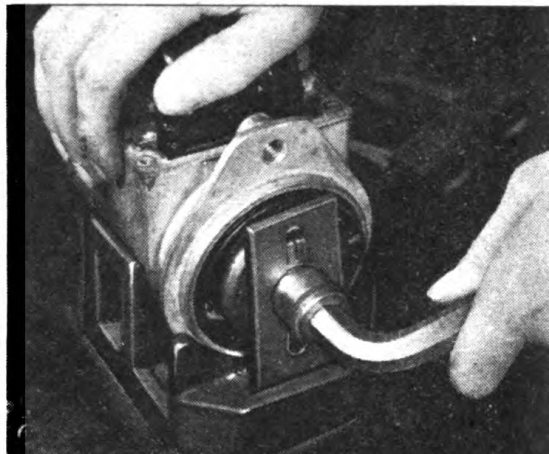

Fig. 58. Removing Impulse Coupling Nut
- (b) Place wrench No. 16 Fig. 37 on the impulse coupling lugs and lock in the supporting stand. Fig. 58.
- (c) Using the socket wrench No. 14 Fig. 37, unscrew the nut holding the impulse coupling. Fig. 58.